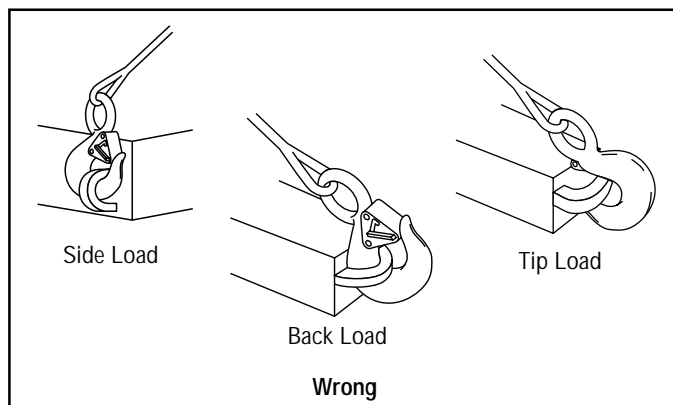

Figure 2
- Never side load, back load, or tip load a hook. (See Figure 2.)